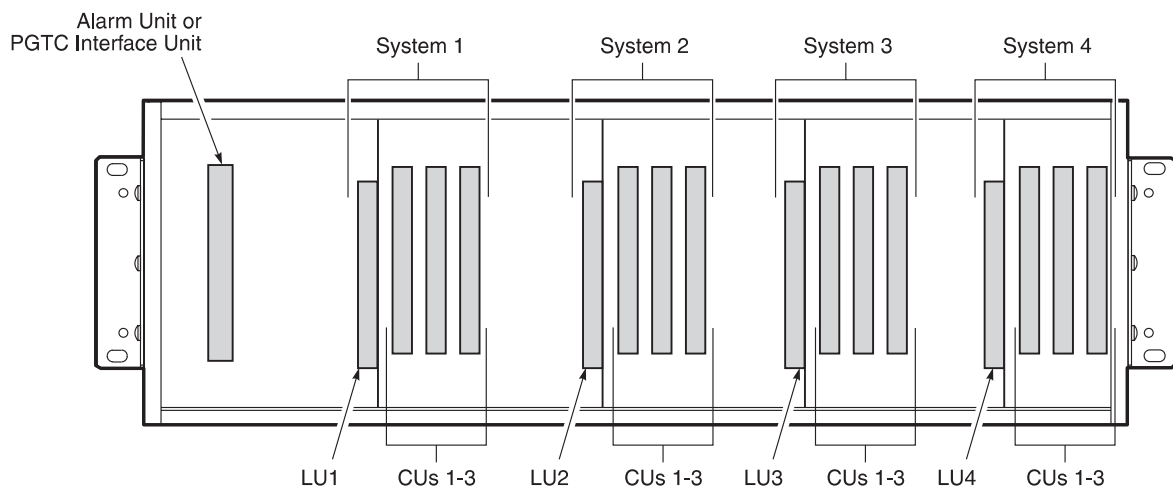

Figure 1. FCS-719 COTS (card-side, front view)
1.1 The PairGain® PG-Flex™ FCS-719 List 4A, 23-inch Central Office Terminal Shelf (COTS) (Figure 1) supports: